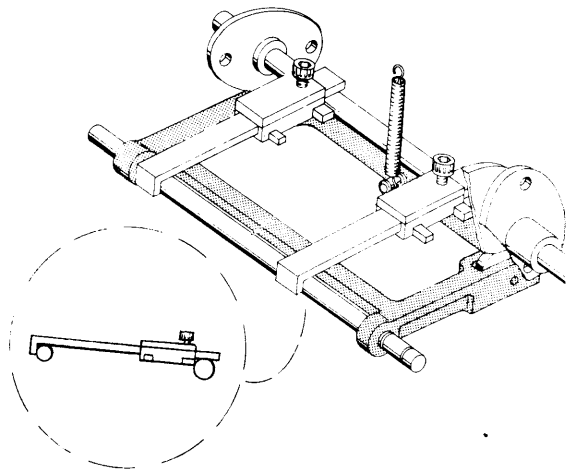

FIGURE 13. Latch Bail Shaft Plate Adjustment
- b. The front to rear position of the bail shaft plate can be set relative to the cycle shaft. Set the Hooverometer to span the distance between the cycle shaft and the left end of the bail shaft as illustrated in Fig. 13. Move the Hooverometer to the right and adjust the bail shaft plate forward or back to the same clearance as at the left side. With the bail shaft parallel to the cycle shaft, the bail rollers should be contacting their respective cams at the same point.